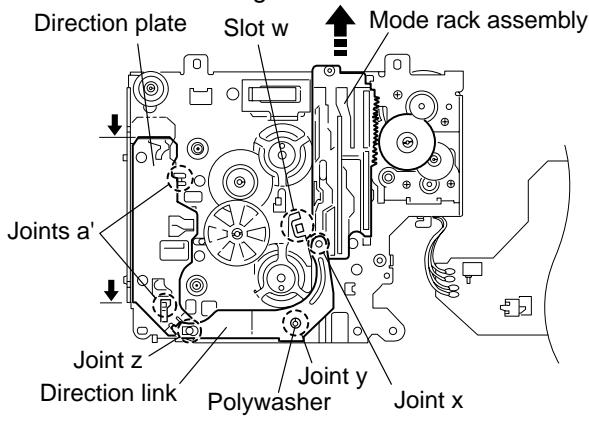

Fig.29
■ Removing the direction link / direction plate (See Fig.29 to 31)
■ Removing the mode rack assembly (See Fig.29 and 30)